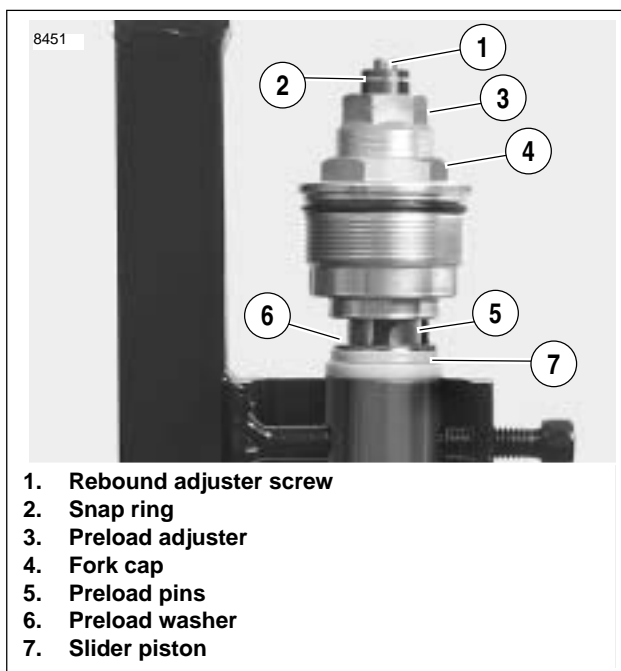

Figure 1-38. Fork Cap Assembly
3. See Figure 1-38. Remove snap ring (2).
- See Figure 1-38. Install preload adjuster (3) back to rider suspension settings.
- Apply fork oil or light grease to o-rings on preload adjuster and install preload adjuster (3).
- Install snap ring (2).